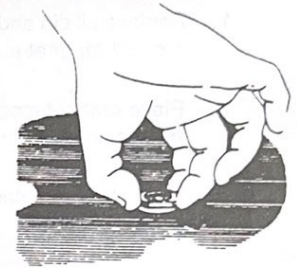

FIG. 3
3. Thread locking nut onto mount and pull up mount base to properly align in hole. While pulling up, finger tighten the locking nut against roof top, as shown in Figure 3.